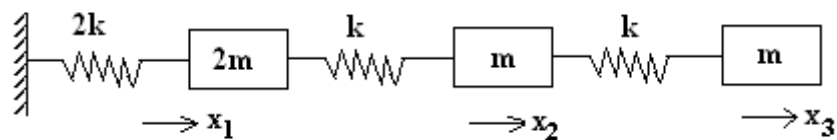

Figure 2b
- (b) Determine the stiffness matrix for the system shown in figure 2b. [6+10]